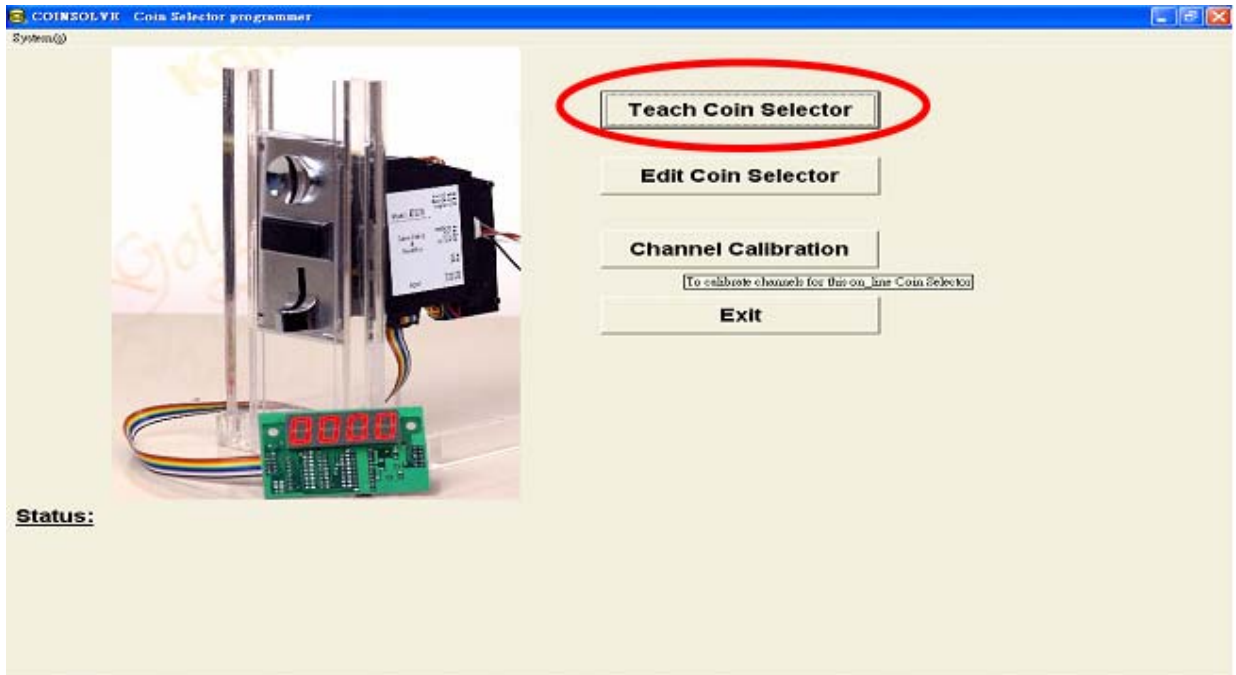
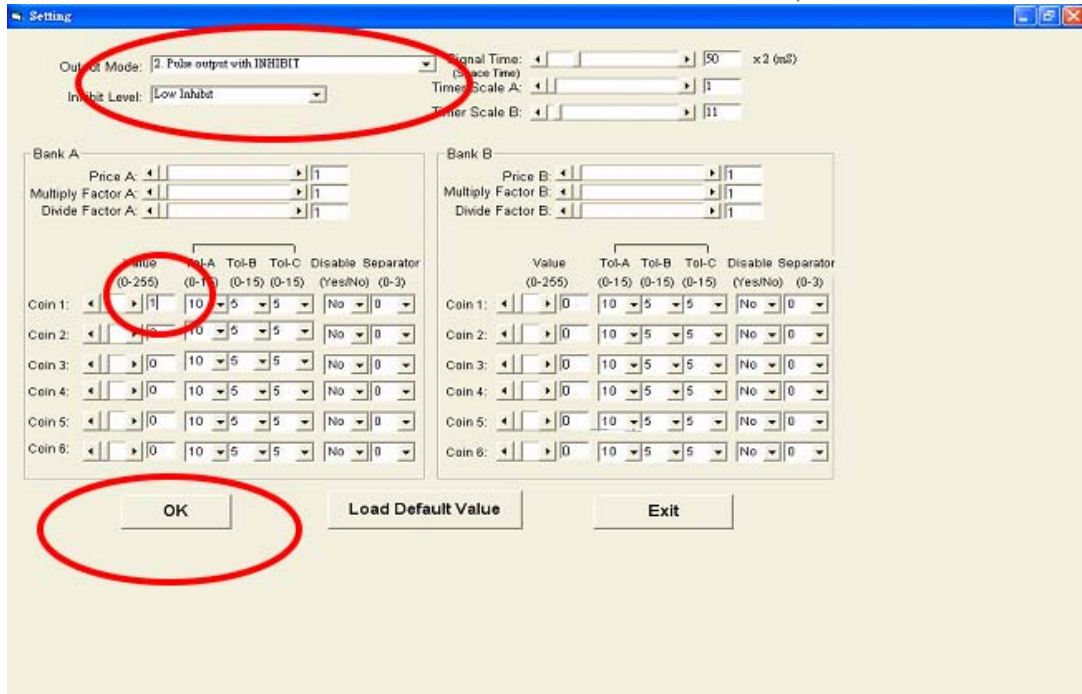

Fig. 4-7 Coin Training window
Fig. 4-8 Coin Training Setting
Step 2: System will click on “*Teach Coin Selector*” and System will set all parameter completion automatically. (Fig. 4-7 and Fig.4-8).